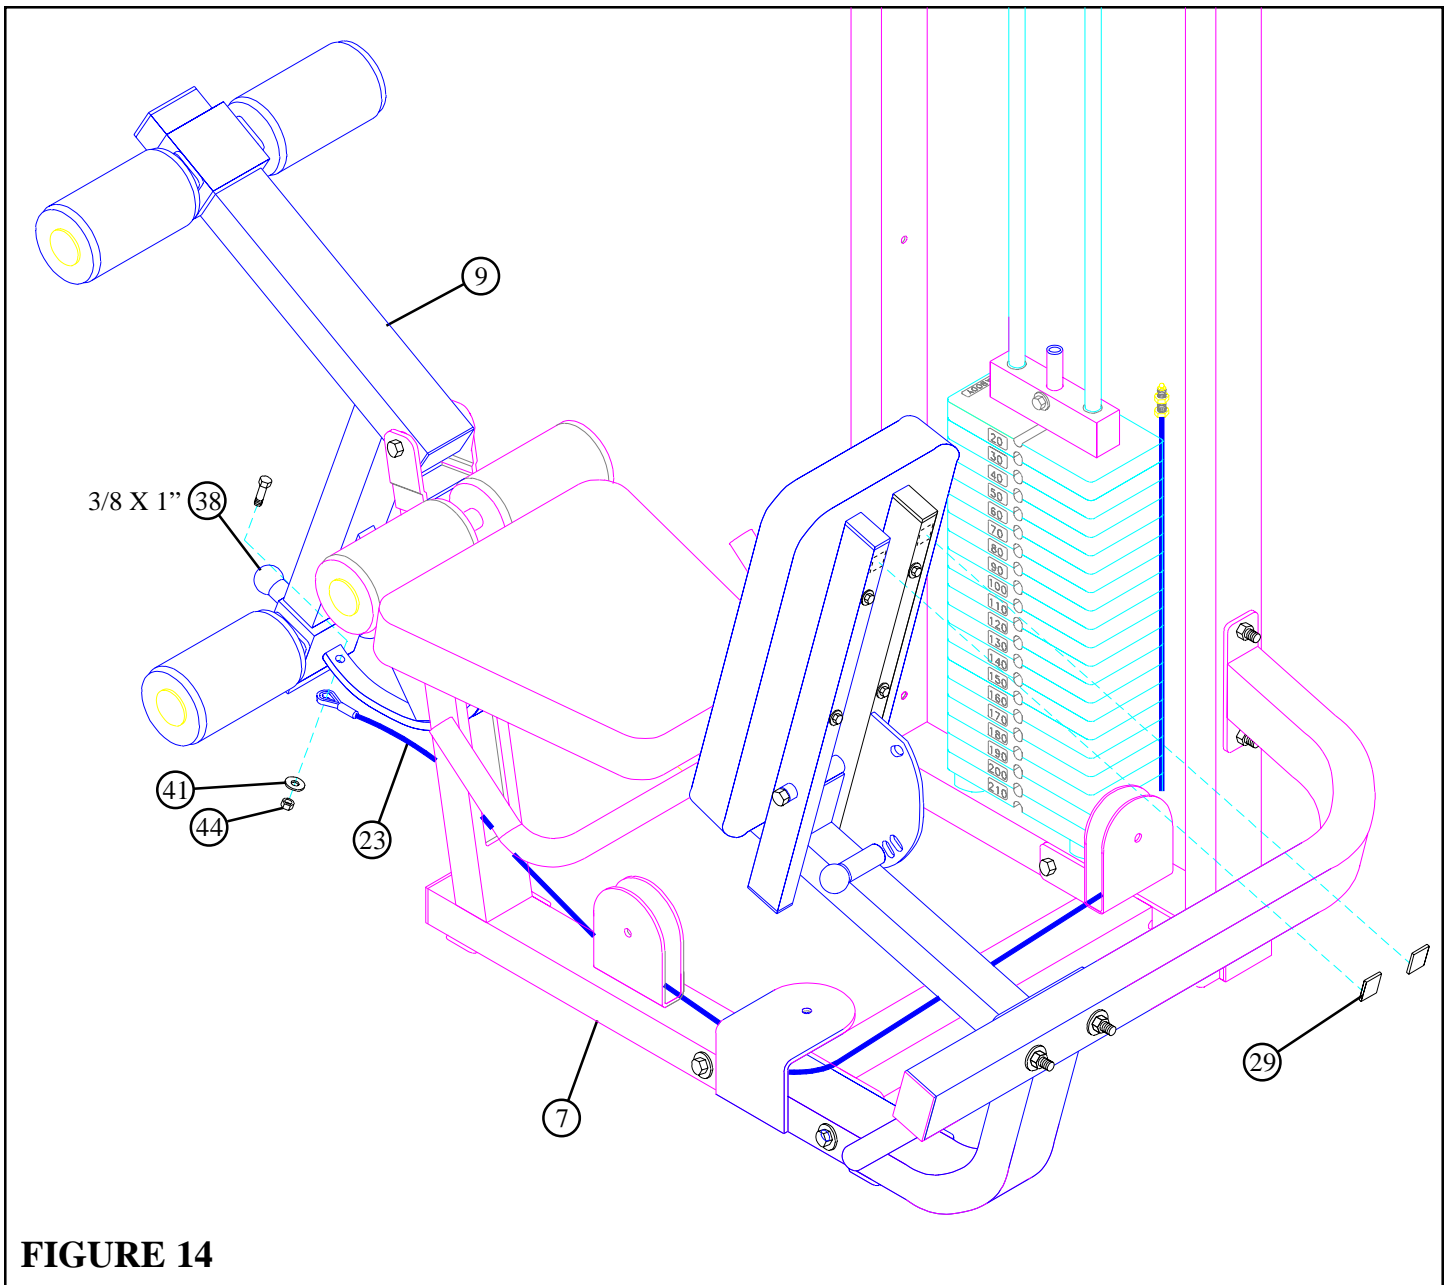

FIGURE 14
- Attach two 1 X 1" GLIDES (29) to the LEFT & RIGHT PAD SUPPORTS (12) (13) approximately where shown in FIGURE 14.
- **SECURELY** assemble the CABLE (23) to the cam on the LEG PEDESTAL (9) using one 3/8 X 1" BOLT (38), one 3/8" WASHER (41), and one 3/8" LOCK NUT (44). See FIGURE 14.
- Insert threaded end of CABLE (23) through slot of the BENCH FRAME (7) and around LEG CURL/EXTENSION (9) as shown in FIGURE 14.